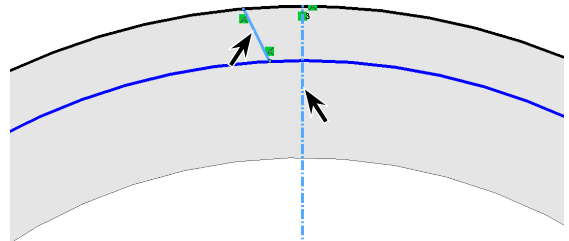

Fig. 13
Step 12. **Ctrl click line and centerline** to select both, **Fig. 13**.